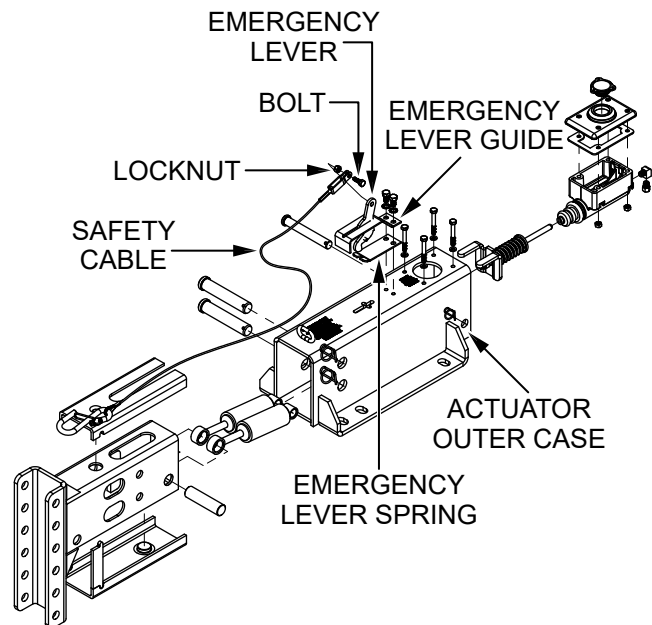

Figure 38. Hydraulic Brake Actuator (Exploded View)
If the hydraulic brake actuator's **emergency lever** (Figure 38) is applied, it can be disengaged by using a screwdriver to lift upward on the front of the flat **emergency lever spring** while pulling the lever forward until released. A thorough inspection of the emergency lever, emergency lever spring, and **safety cable** is required. Damaged parts must be replaced as follows:
1. Remove the safety cable from the emergency lever, emergency lever guide, and flat emergency lever spring, then pull the lever out of the **actuator outer case** (Figure 38) through the cross-slot in the top of the outer case.
3. Bolt the safety cable to the emergency lever using the **bolt** and **locknut** (Figure 38). Leave loose to allow the fork to pivot on the lever.